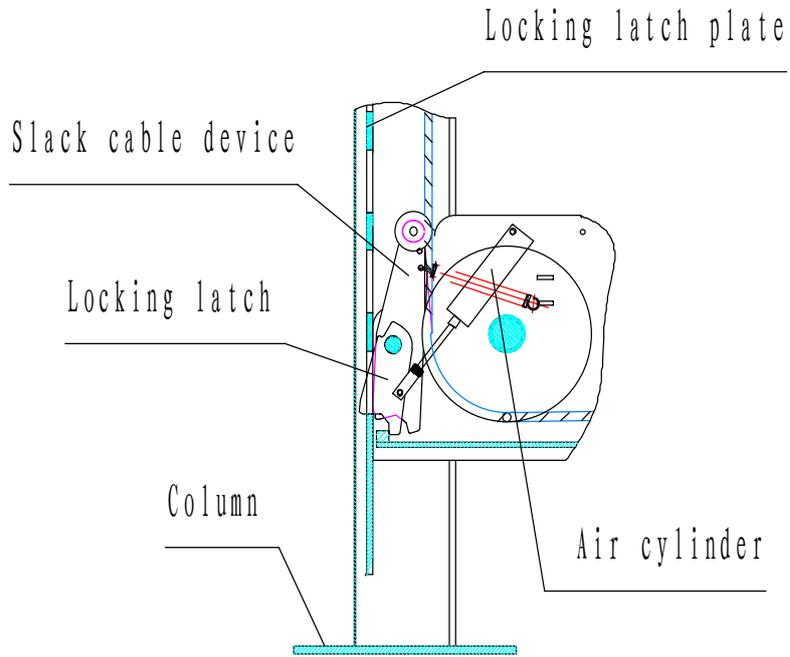

Fig.3
- Cable slack or broken protection: During the raising and lowering the lift, the equal tension cables will press the slack cable roller to disengage the latches. If the cable is slack or breaks, the slack cable device will insert into the slot of locking latch plate to ensure the safety. (Fig. 3)